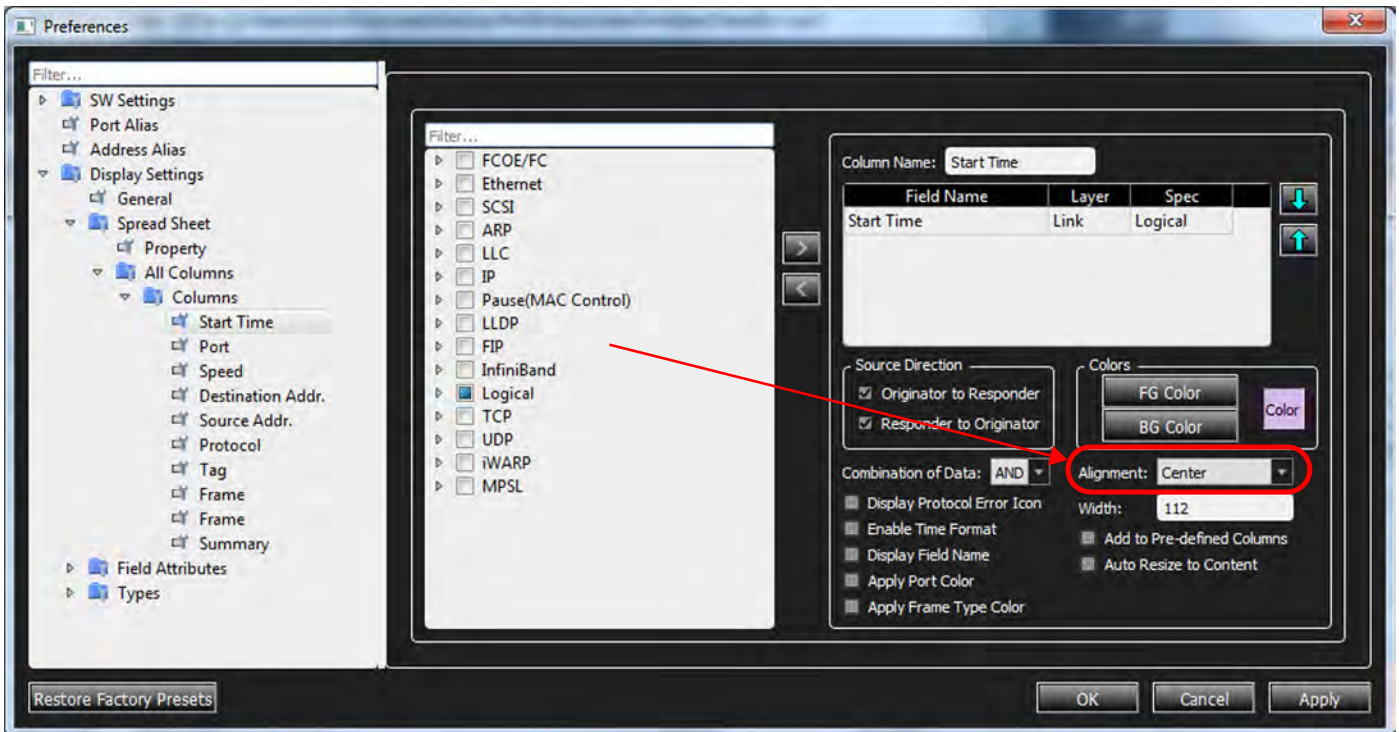

Figure 3.63: Preferences Window
1. To modify column headings and widths, navigate to the *Preferences* window (Figure 3.63).